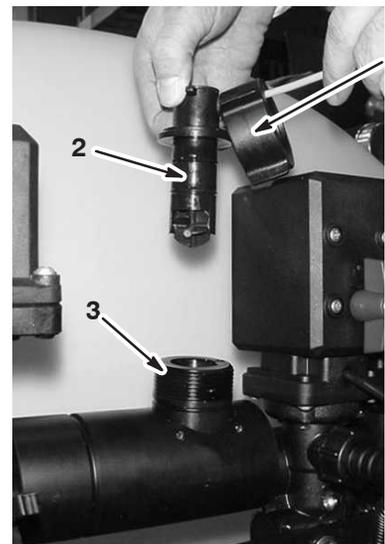

Figure 62
2. Remove the retaining cap from the flowmeter body (Fig. 62).